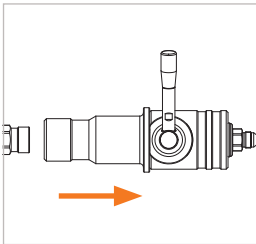

Figure 14
- ▶ Carefully pull the WEH® Service receptacle straight out of the fueling nozzle (Figure 14).